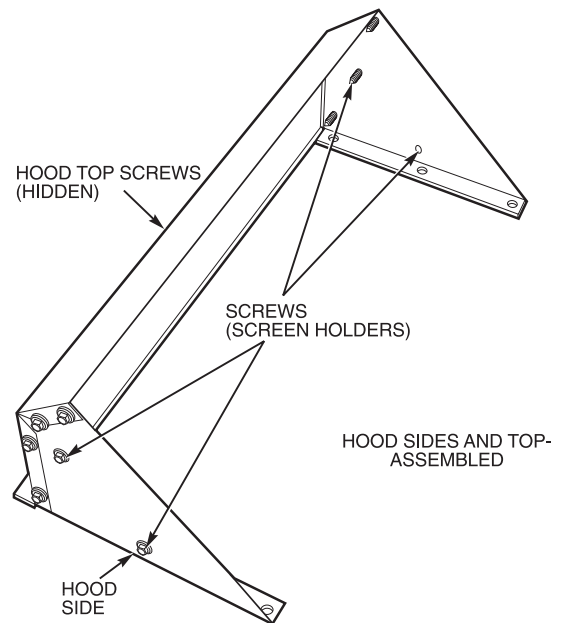
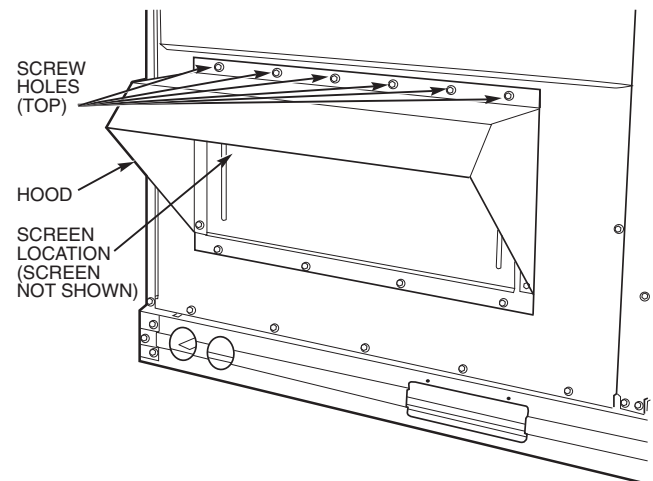

Fig. 17 — Outdoor-Air Hood Details
Fig. 18 — Outdoor-Air Hood
5. Place hood on front of outdoor-air opening access panel. See Fig. 17 for hood details. Secure top of hood with the 6 screws removed in Step 3. See Fig. 18.
7. Align screw holes on hood with screw holes on side of manual outdoor-air damper assembly. See Fig. 17 and 18. Secure hood with screws from Step 6.
9. Remove and save screws currently on sides of hood. Insert screen. Secure screen to hood using the screws. See Fig. 18.